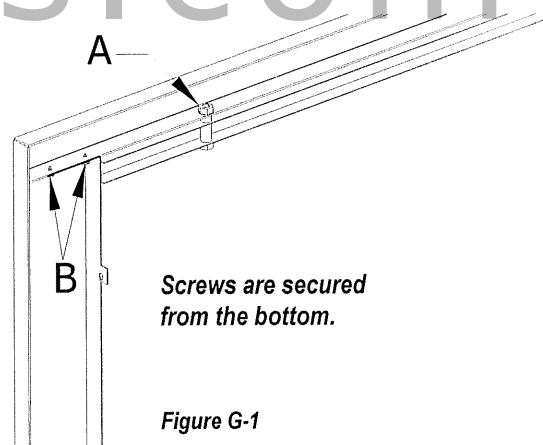

Figure G-1
ASSEMBLE THE SHROUD - Figures G-1 & G-2
2. Attach the upper grill to the top shroud piece by slipping the bolts on the upper grill through the holes in the top shroud piece and secure with the nuts (A). **NOTE:** The louvers on the upper grill should be in the downward position. See figures G-1 & G-2.
3. Secure the right and left shroud pieces to the top piece by aligning the (2) holes in the side pieces to the holes in the top piece. Secure with the screws provided (2 ea. side) (B).